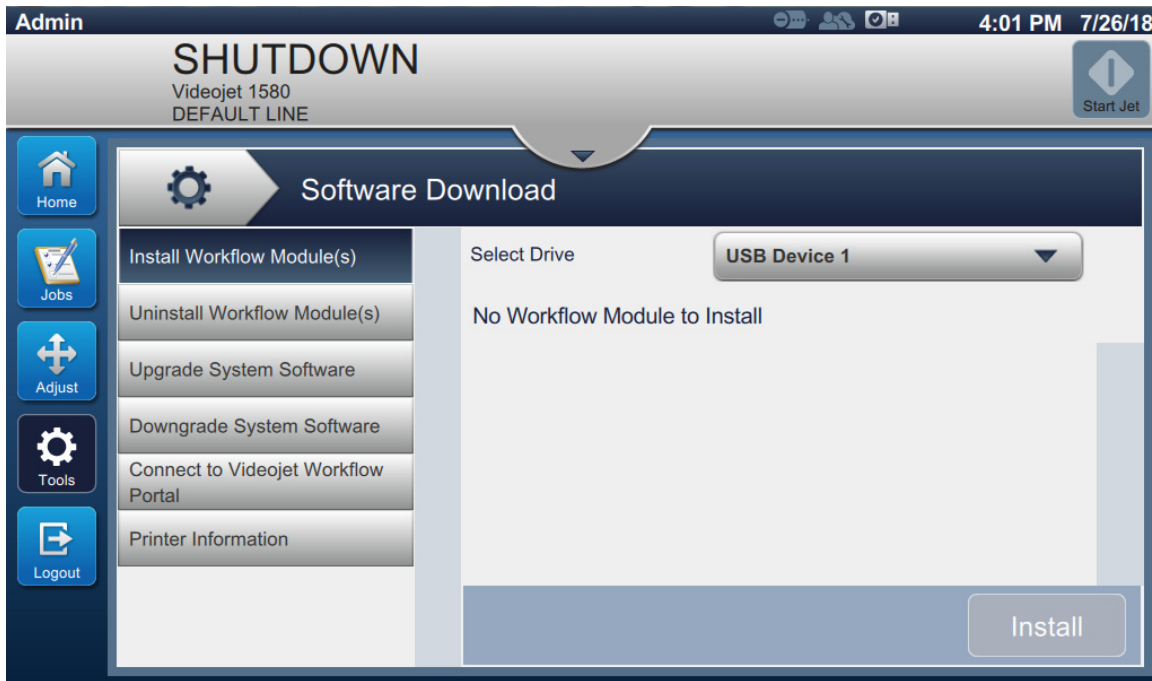

Figure 6-21: Software Download Screen
1. Touch the  button from the Tools screen. The Software Download screen opens as shown in the Figure 6-21.